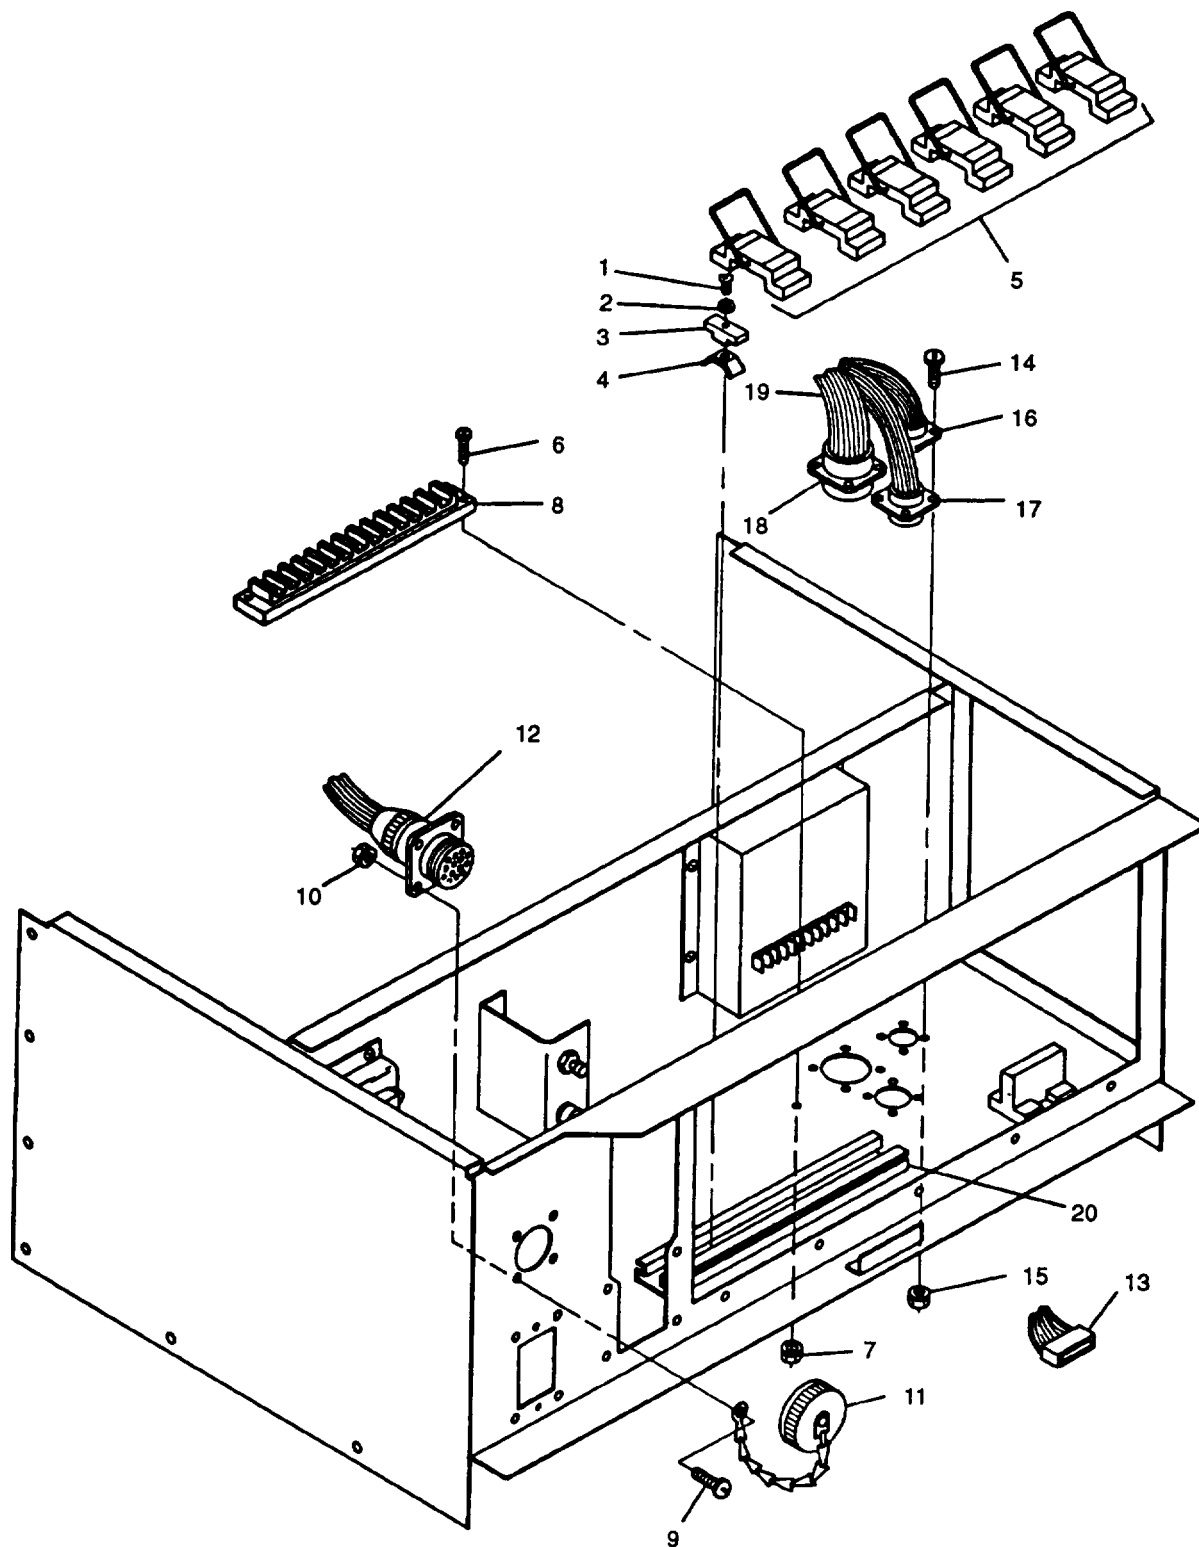

FIGURE 4-10. Control Box Harness
- g. Remove screws (1, FIGURE 4-10), washers (2), insulators (3), clips (4), and sockets (5) from track (20).
- h. Remove screws (6) and nuts (7) to free terminal board (8).
- i. Remove screws (9), nuts (10), and cap (11) to free diagnostic connector (12).
- k. Disconnect electrical connector (13, FIGURE 4-10) to malfunction indicator (12, FIGURE 2-11) panel.
- m. Remove screws (14, FIGURE 4-10) and nuts (15) to free harness connectors (16), (17), and (18).
- n. Remove harness assembly (19) from control box.
- a. Position control box wiring harness assembly (19, FIGURE 4-10) in control box.
- b. Secure harness connectors (16), (17), and (18) to control box with screws (14) and nuts (15).
- e. Install diagnostic connector (12, FIGURE 4-10) and cap (11) with screws (9) and nuts (10).
- g. Secure terminal board (8, FIGURE 4-10) to control box with screws (6) and nuts (7).
- h. Position sockets (5) on track (20) as tagged on removal.
- i. Secure sockets (5) with clips (4), insulators (3), washers (2), screws (1), and remove tags.